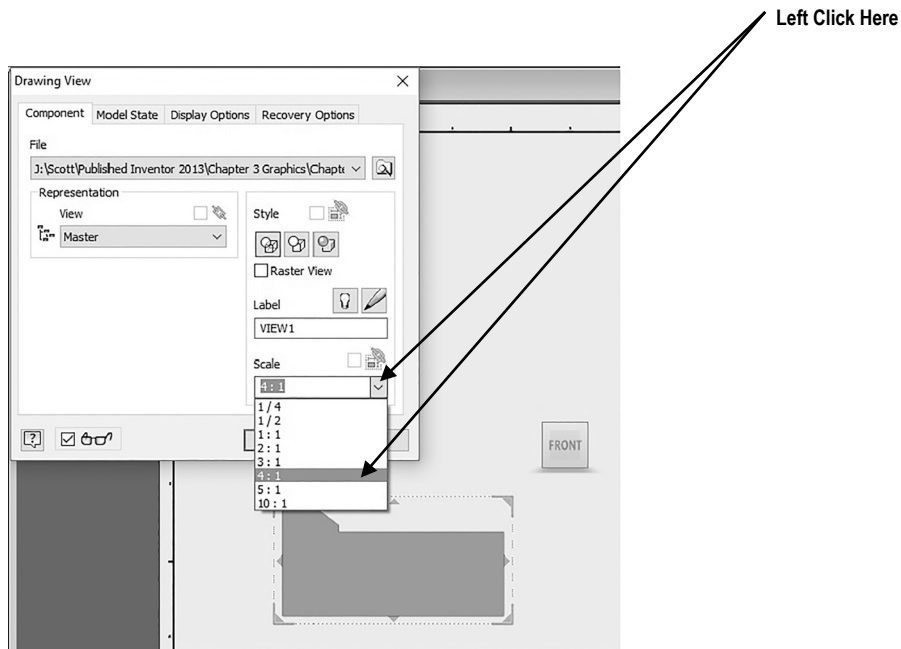

Figure 15
19. Left click on the **Scale** drop down box and set the drawing scale to **4:1**. The size of the wedge block will become larger as shown in Figure 15.